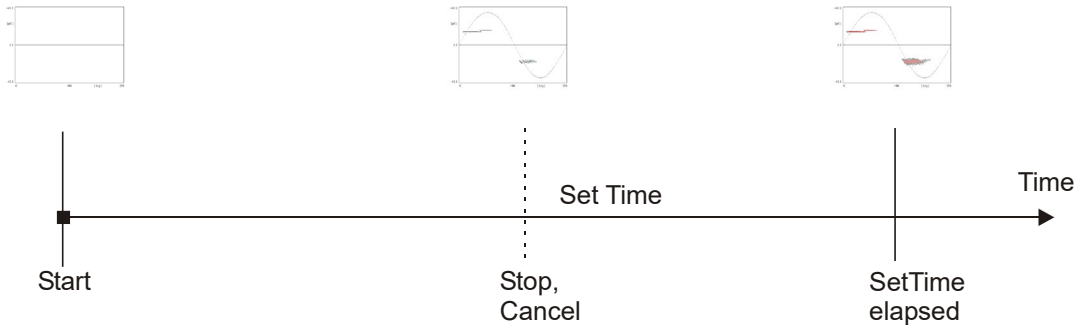

Fig. V.1: Single-channel standard mode
- Single-channel (SC) standard mode
- Multi-channel (MC) standard mode
The measurement mode controls the way of acquiring partial discharge pattern within the SC panel or MC panel. The single-channel (SC) standard mode as shown in figure V.1 is used to acquire a PD pattern of a single channel for the pre-set value of 'Set Time'. The acquisition can be stopped manually by pressing the buttons 'Cancel', which stops the measurement immediately, or 'Stop', which completes the data of the current map. After having finished the acquisition, the data can be saved to a so-called 'dat' file. Use this mode for any single-channel measurement, such as calibration measurements, for instance.